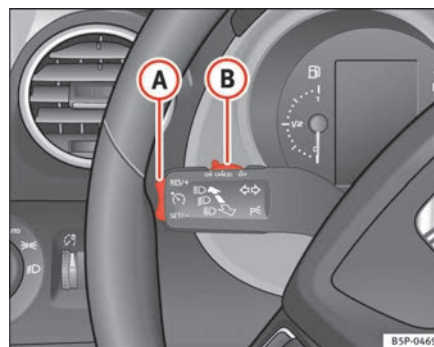

Fig. 148 Indicator and main beam headlight lever: switch and rocker switch for the cruise control
- Press the upper part **RES/+** of the rocker switch ⇒ fig. 148 **A** to increase the speed. The vehicle will continue to accelerate as long as you keep the rocker switch pressed. When you release the switch, the new speed is stored.
Control of the set speed is switched off if you reduce speed by depressing the brake pedal. You can reactivate the control by pressing once on the upper part of the rocker switch **RES/+** ⇒ page 179, fig. 148 **A**.